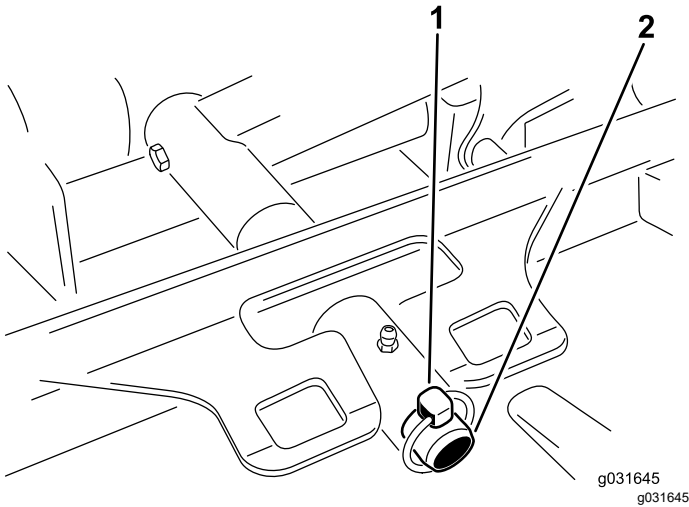

**Figure 69**
2. Remove the hydraulic-motor-mounting screws and disconnect and remove the hydraulic motor from the cutting unit (Figure 69).
- Using the hydraulic-motor-mounting screws, install the hydraulic motor to the cutting unit (Figure 69).